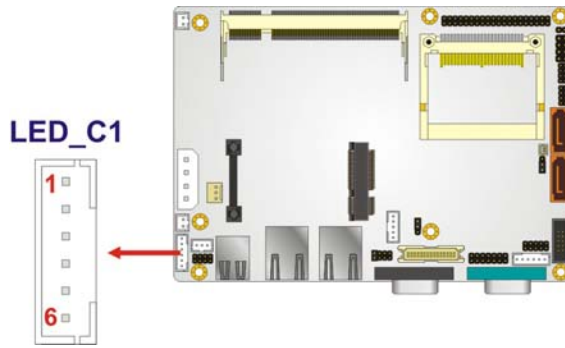

Figure 3-10: LED Connector Location
- CN Location:** See **Figure 3-10**